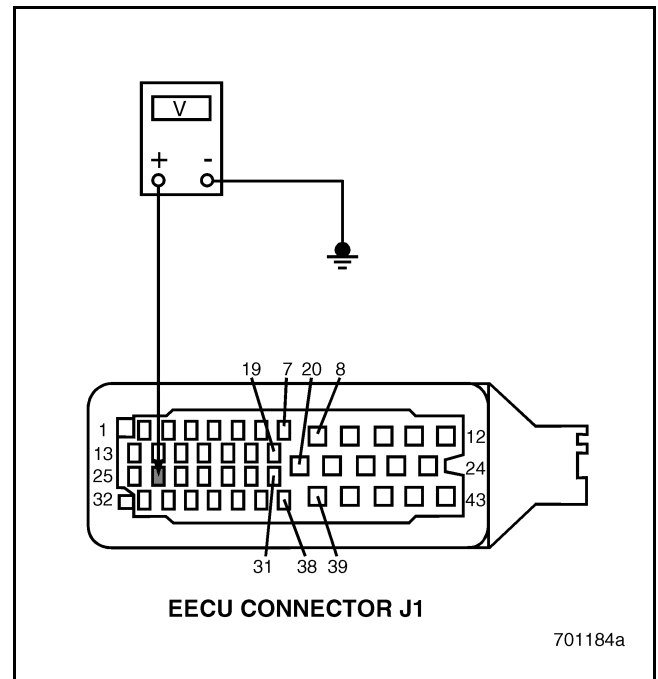

Figure 199
4. Measure the voltage between EECU connector J1 pin 26 and a good ground (see Figure 199).